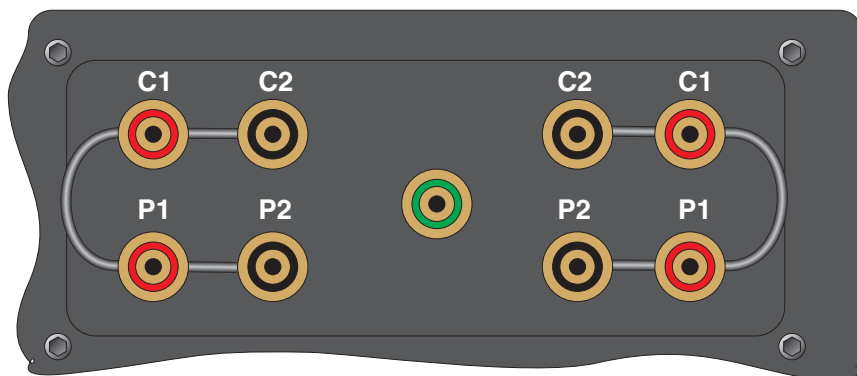

Figure 50 Using a Shorting Wire
1. Connect a 0Ω resistor to the input and measure its resistance. If a shorting wire is used the wire should run from the C2 terminal to the C1 terminal to the P1 terminal to the P2 terminal (See Figure 50). Note the average error in the measurement. Adjust the C0 parameter by subtracting the measured error. For example, if the input is exactly 0.0000 and the readout shows -0.0011, adjust the C0 parameter by adding 0.0011.
1. Connect a 0 Ω resistor to the input and measure its resistance. If a shorting wire is used the wire should run from the C2 terminal to the C1 terminal to the P1 terminal to the P2 terminal (See Figure 50 on page 128). Note the average error in the measurement. Adjust the C0K parameter by subtracting the measured error. For example, if the input is exactly 0.0 Ω and the readout shows -0.11 Ω , adjust the C0K parameter by adding 0.11.